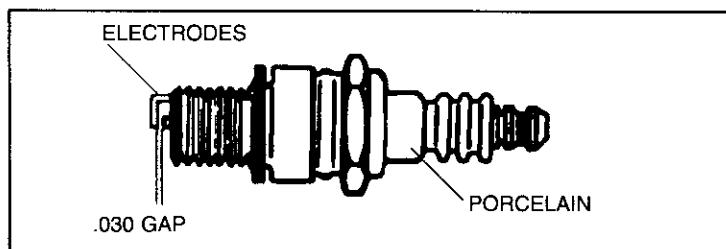

Figure 7
### ④ SPARK PLUG (see Figure 7):